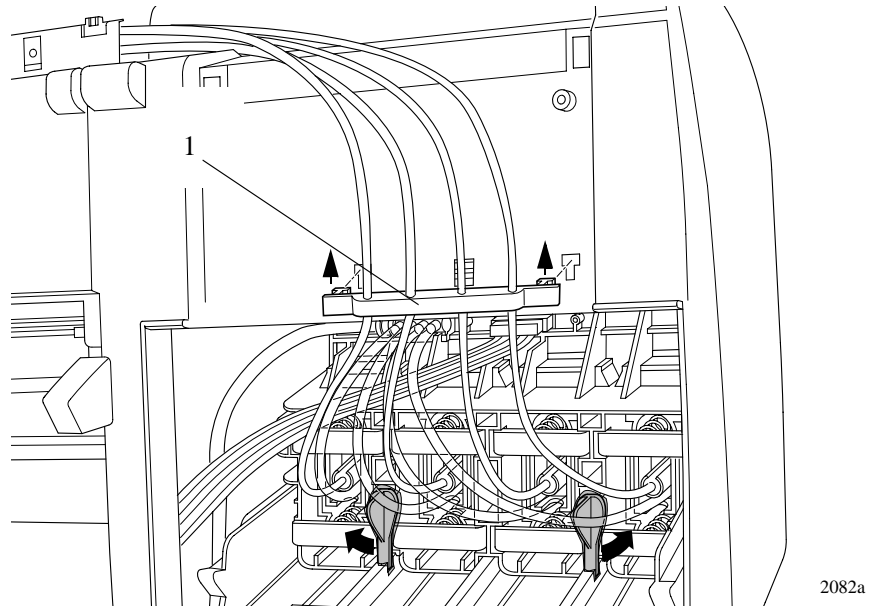

Figure 9: Tube Grip
2. Release the tube holder (item 1) from the rear of the left hand cover by pushing it up and out (refer to Figure 9).